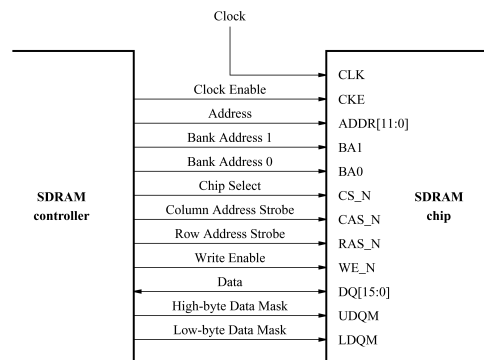

Figure 2. The SDRAM signals.
The SDRAM chip on the DE0-Nano board has the capacity of 256 Mbits (32 Mbytes). It is organized as 4M x 16 bits x 4 banks. The signals needed to communicate with this chip are shown in Figure 2. All of the signals, except the clock, can be provided by the SDRAM Controller that can be generated by using the Platform Designer tool. The clock signal is provided separately. It has to meet the clock-skew requirements as explained in section 7. Note that some signals are active low, which is denoted by the suffix N.
The Platform Designer tool generates an HDL file for the system, which can then be instantiated in a VHDL file. The augmented VHDL entity generated by the Platform Designer tool is in the file *nios\_system.v* in the *nios\_system\synthesis* directory of the project. Figure 7 depicts the portion of the code that defines the input and output signals for the entity *nios\_system*. As in our initial system that we developed in the introductory tutorial, the vector that is the input to the parallel port *Switches* is called *switches\_export*. The output vector is called *leds\_export*. The clock and reset signals are called *clk\_clk* and *reset\_reset\_n*, respectively. A new entity, called *sdram*, is included. It involves the signals indicated in Figure 2. For example, the address lines are referred to as the **output** vector *sdram\_wire\_addr[12:0]*. The data lines are referred to as the **inout** vector *sdram\_wire\_dq[15:0]*. This is a vector of the **inout** type because the data lines are bidirectional.
A first attempt at creating the new entity is presented in Figure 8. The input and output ports of the entity use the pin names for the 50-MHz clock, *CLOCK\_50*, pushbutton switches, *KEY*, dip switches, *SW*, and green LEDs, *LED*, as used in our original design. They also use the pin names *DRAM\_CLK*, *DRAM\_CKE*, *DRAM\_ADDR*, *DRAM\_BA*, *DRAM\_CS\_N*, *DRAM\_CAS\_N*, *DRAM\_RAS\_N*, *DRAM\_WE\_N*, *DRAM\_DQ*, and *DRAM\_DQM*, which correspond to the SDRAM signals indicated in Figure 2. All of these names are those specified in the DE0-Nano User Manual and included in the file called *DE\_Nano.qsf*, which can be found on Intel's DE0-Nano web page at <https://www.altera.com/support/training/university/boards.html>
--          SDRAM ports correspond to the signals in Figure 2; their names are those